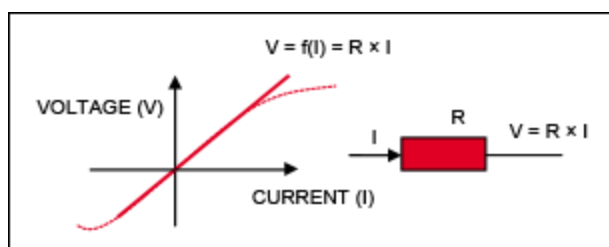

Figure 1. Dotted red line shows the real (imperfect) resistor. Linearity is corrupted when I and V curves become large.
We all know that the ideal relationship of $V = R \times I$ cannot be realized 100% of the time. One can approach it, but the inherent imperfections and limitations of the devices cause deviations in the ideal curve. This is particularly true when signals (I, V) are large and/or other conditions like temperature, humidity, and pressure vary. To compensate for these inherent deviations, we want the resistor, R, to be as linear as possible and remain so over wide ranges of signals and conditions. In reality, however, resistors have more complex curves in the (VI) characteristics (red dotted line in **Figure 1**).
We begin by considering a general electronic function. Signals x and y are the input and output powers, respectively, and A is the transfer function between them (i.e., the "gain" if the device is an amplifier). Referring to the discussion of the resistor in Figure 1, in all real-world devices the curve is not a nice straight line indicating that "y is proportional to x." Instead, the curve is not perfect and becomes distorted when signals are large.